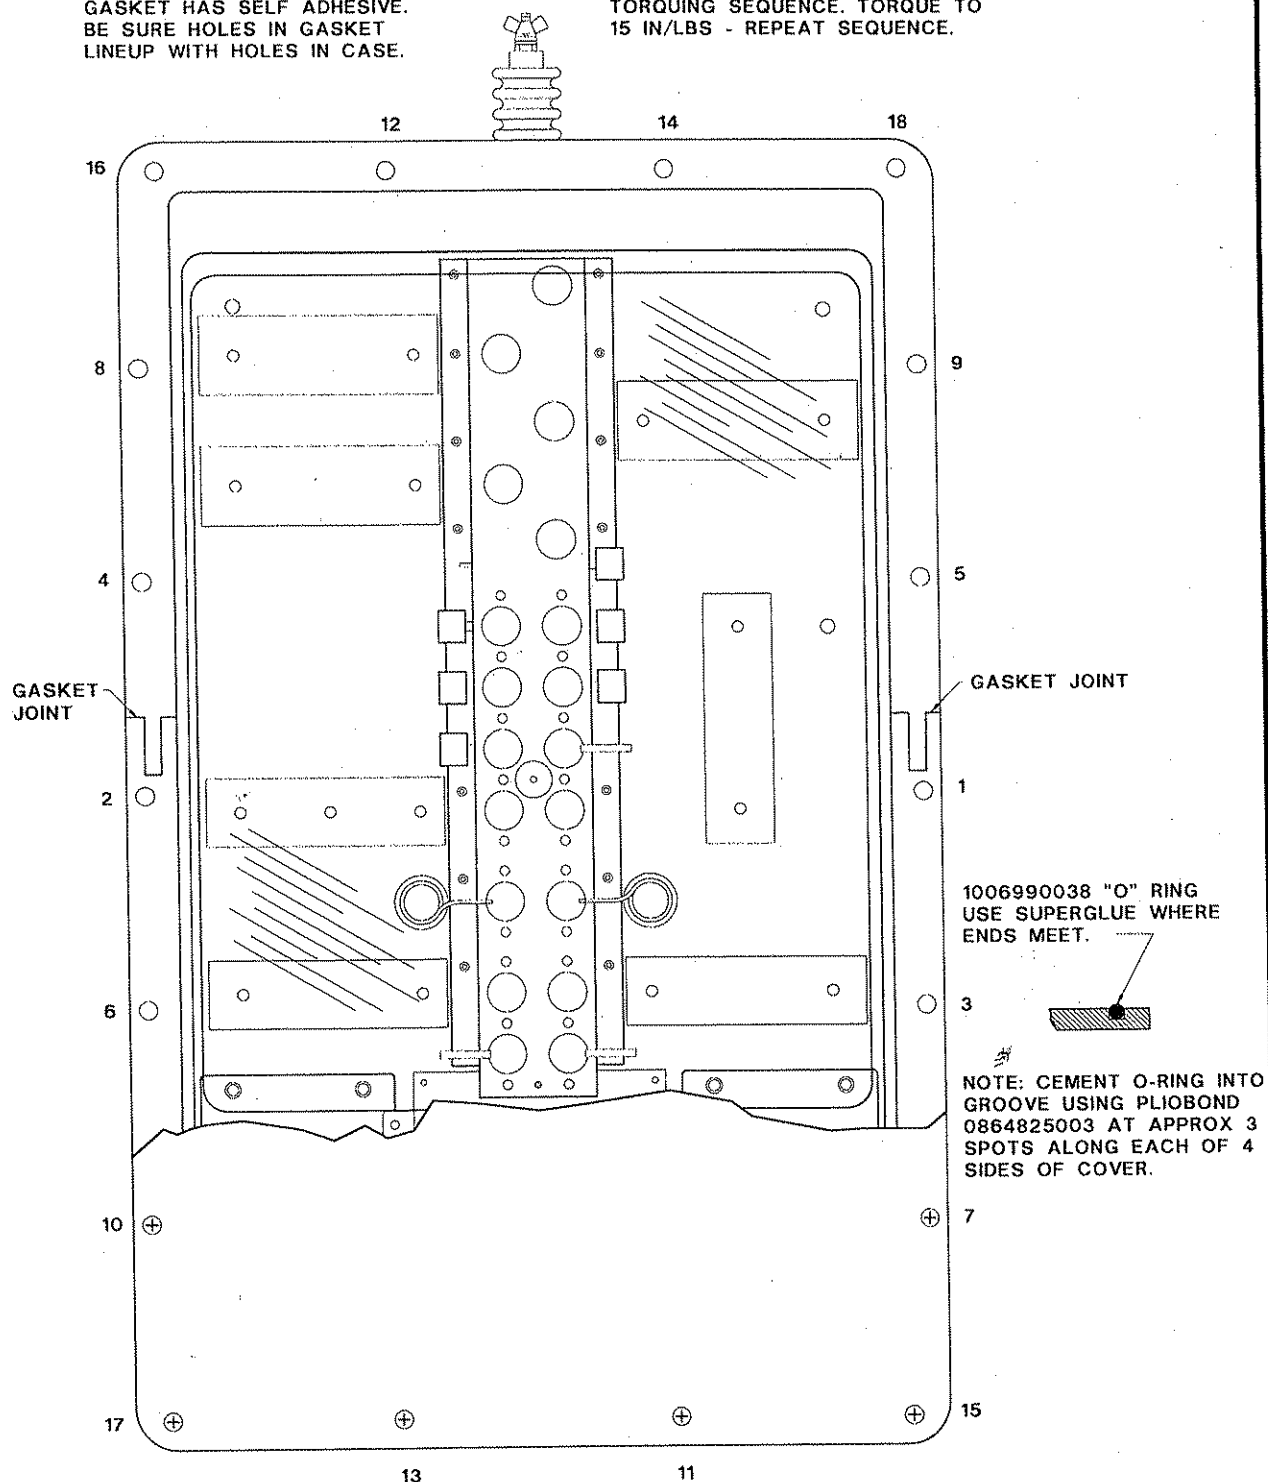

Figure 5.1 Gasket Installation and Torque Sequence.
Whenever the coupler is opened the gaskets should be carefully inspected to ensure that they are not cracked, broken, frayed or worn. If the gaskets require replacement, use the materials listed below and complete the following procedure. See Figure 5.1.
- 6.1 Tighten the screws using a torque-screw-driver adjusted for 15 inch pounds. Follow the torque sequence procedure described in Figure 5.1.